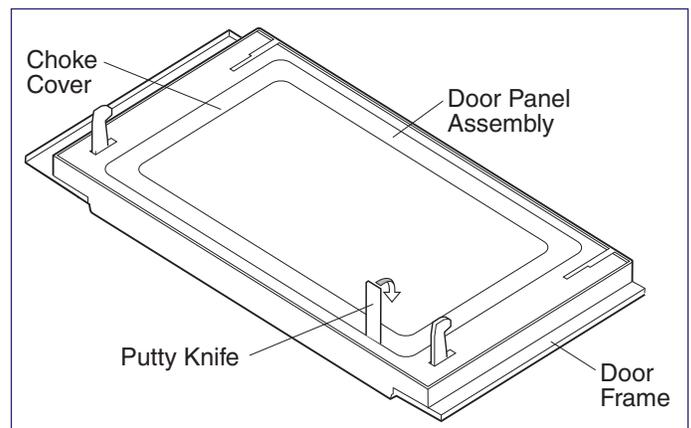

Figure 4-8. Door Disassembly
7. Insert a putty knife (thickness of about 0.5mm) into the gap between the choke cover and door stopper and between the choke cover and the door frame as shown in Figure 4-8 to free engaging parts.
8. Pry the choke cover by inserting a putty knife in order shown in Figure 4-8.